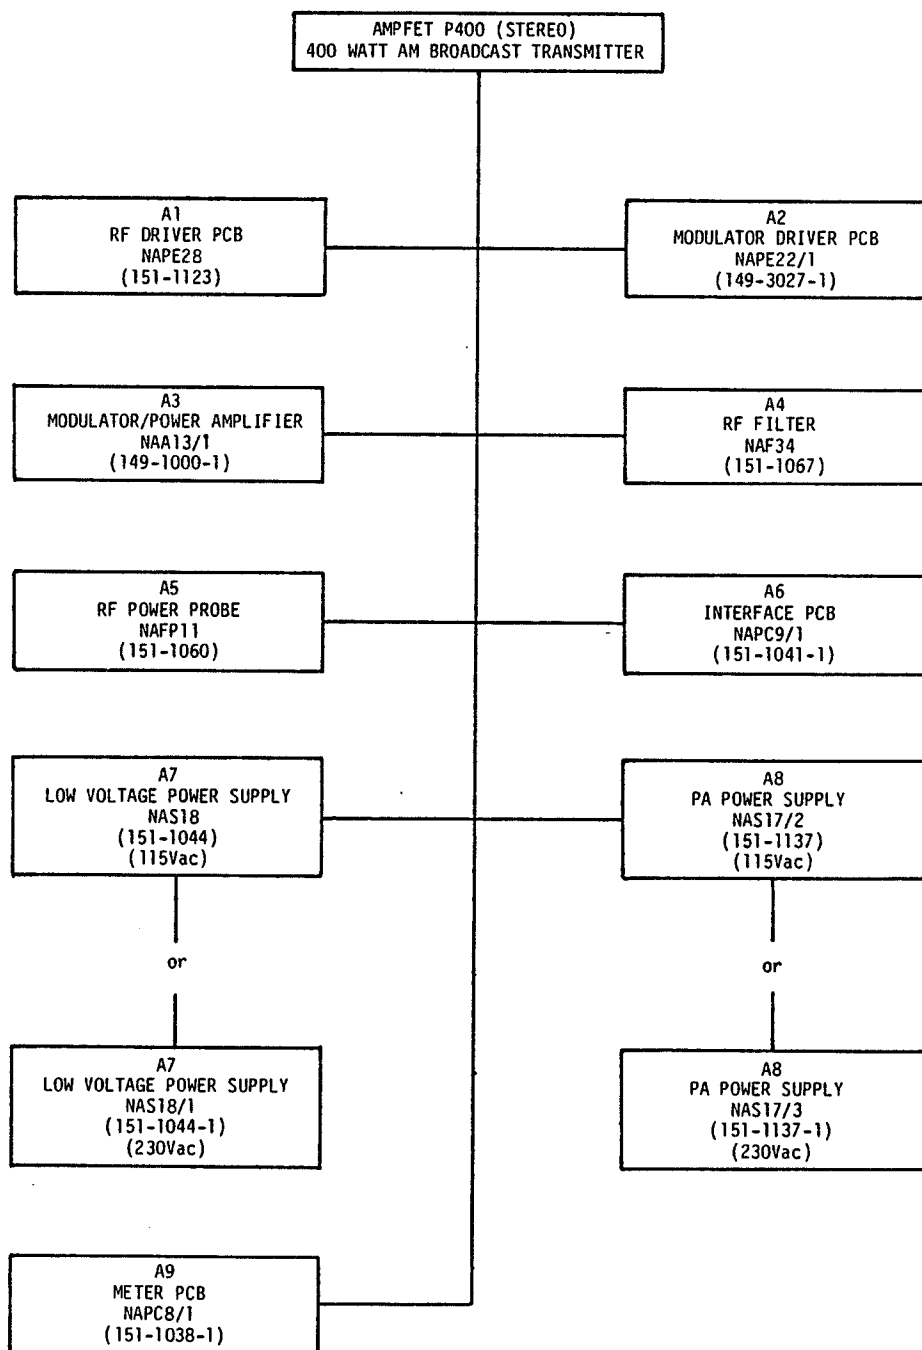

Figure 7-1 AMPFET P400 (Stereo) Family Tree
7.2 Figure 7-1 depicts the family tree for an AMPFET P400 (STEREO) AM broadcast transmitter.